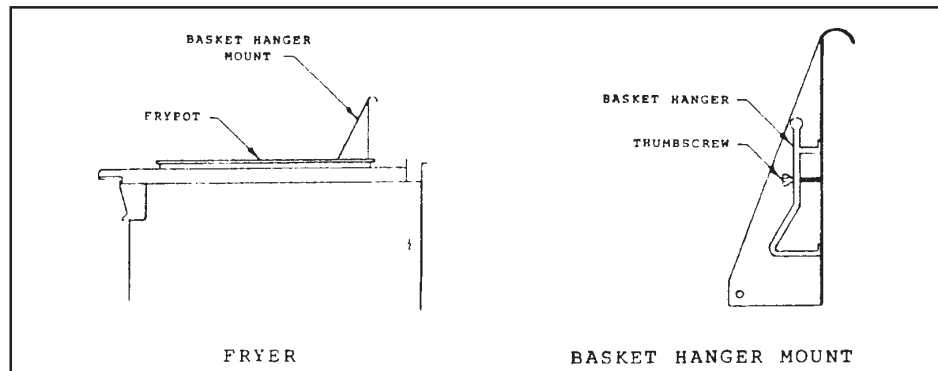

FIGURE 1
2. Attach basket hanger mount as shown in Figure 1 using bolts that are provided.